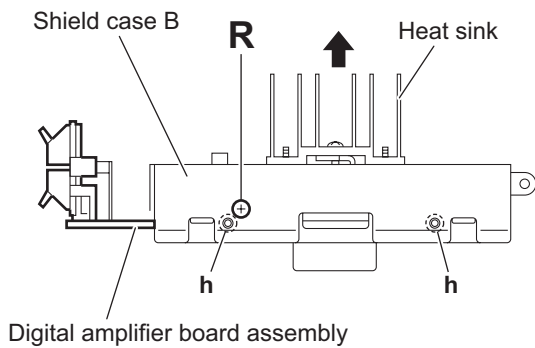

Fig.18
- From the top and bottom sides of the digital amplifier board assembly, remove the three screws **R**. (See Figs.18 and 19.)
- Release the joints (**h, j, k, m**) and remove the shield case B with the heat sink in the direction of the arrow. (See Figs.18 to 21.)